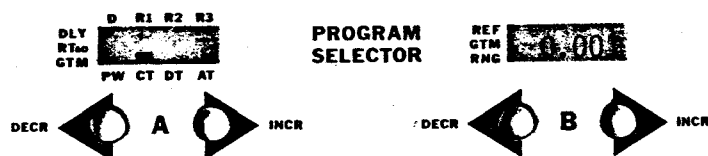

Figure 39
Making changes to the preset values of PW, CT, DT and AT requires the use of PROGRAM SELECTORS A and B. When GTM is selected PROGRAM SELECTOR A is used to select the timing parameter to be changed, and PROGRAM SELECTOR B is used to change the value of the timing parameter selected. As shown (in Figure 39) a lighted LED bar segment appears in the display window of PROGRAM SELECTOR A above the timing parameter selected. In the figure below, cycle time (CT) has been selected. PROGRAM SELECTOR B is used to change the actual value of the selected timing parameter; the current value is shown in the display window of PROGRAM SELECTOR B, with units of seconds.